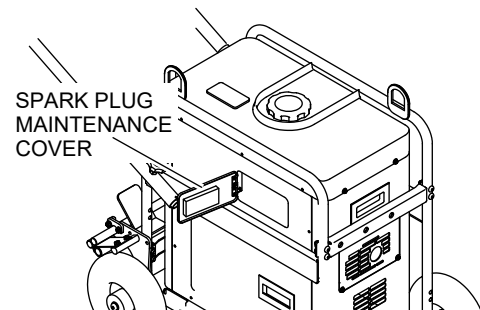

Figure 36. Spark Plug Maintenance Door
2. Open the spark plug maintenance door (Figure 36).